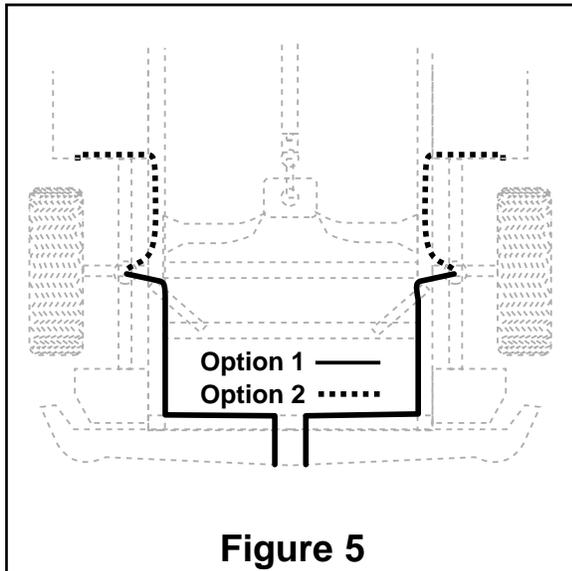

Figure 5
5. Select a location for the inflation valves in the rear bumper area or rocker panel flange insuring that each valve will be protected and accessible with an air hose (Figure 5).